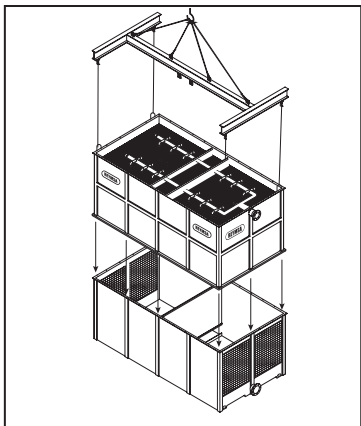

Figure A-75: Body section installation for a modular tower (RTGM-B)
- I. Assemble body section #1 (for RTGM-B) with the basin section #1, making sure that the bolt holes on body section #1 are aligned with the perforations on basin section #1, then bolt down and secure the horizontal flanges with the stainless steel nut and bolt sets supplied by REYMSA (see Figure A-75 for reference).